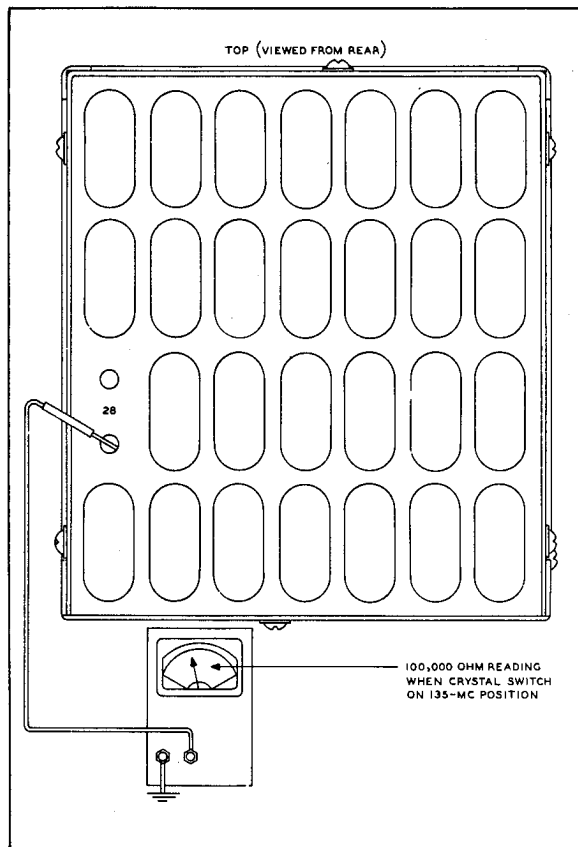

Figure 7-5. Test Connection - Coarse Frequency Oscillator Switch Adjustment
b. Pull out 9625.000 kc crystal, Y-1528 and attach an ohmmeter between the lower socket and ground as shown in Figure 7-5.